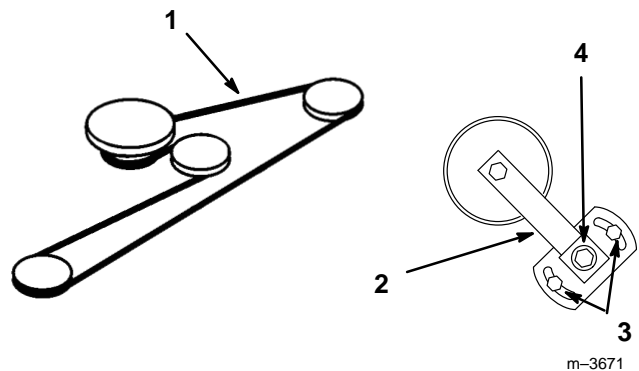

Figure 15
3. Loosen two nuts securing idler plate and move the idler arm to relieve belt tension on the idler pulley, then remove the worn deck belt (Fig. 15).
4. Install the new deck belt around the spindle pulleys, belt guide, the idler pulley, and in the lower groove of the center spindle pulley (Fig. 15).